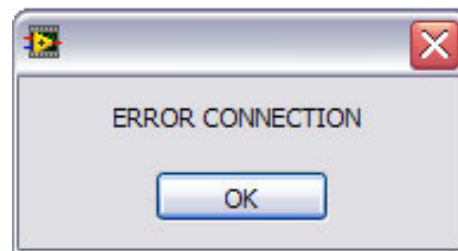

Figure 3. Error Message
3. Determine if the SDP is connected to the evaluation board in use. If the SDP is not connected to the evaluation board, a dialog box appears, shown in Figure 3. Check the connection